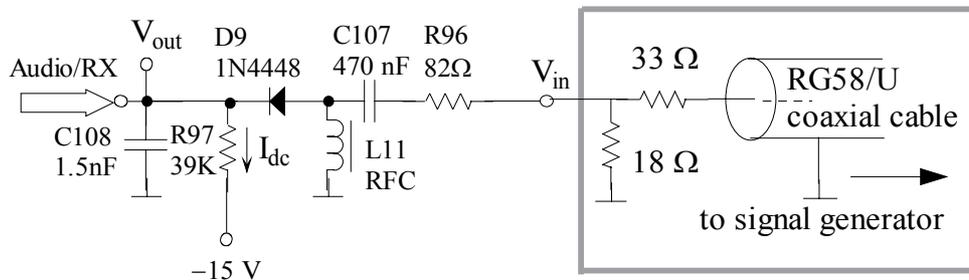

Figure 6.14 TRC-10 envelope detector
3. Mount and solder 33 Ω , 18 Ω resistors and the coaxial cable, with a BNC connector on one end, to the free end of R96 as shown in Figure 6.14 in gray bracket, using ground plane construction technique. Connect the coaxial cable to the signal generator. Switch the signal generator on. Set the signal generator to AM signal with 10 V p-p amplitude and 50 % modulation, to obtain